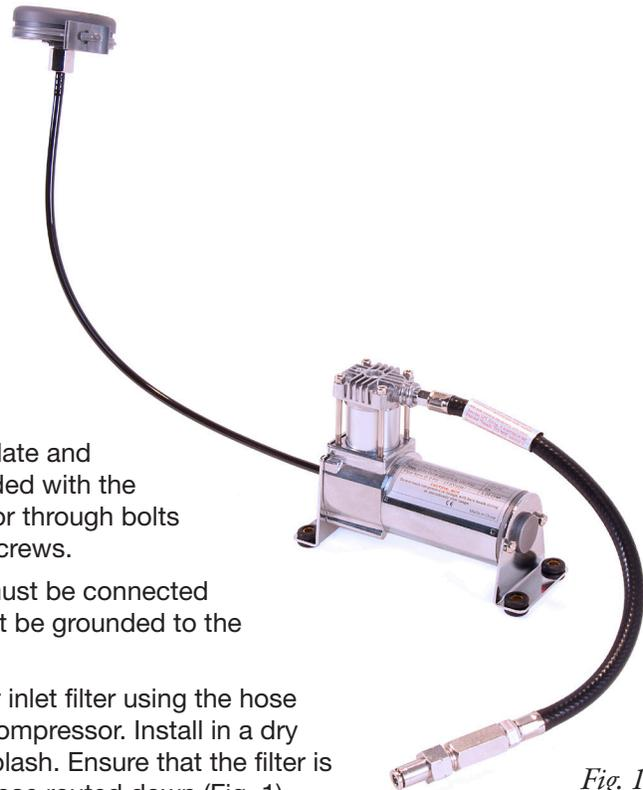

Fig. 1
4. Remote mount the compressor inlet filter using the hose and fittings included with the compressor. Install in a dry location shielded from direct splash. Ensure that the filter is mounted pointed up with the hose routed down (Fig. 1).